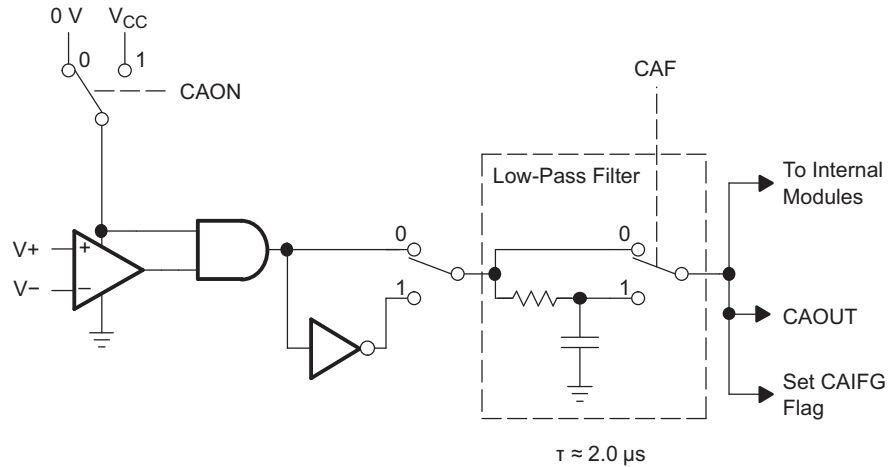
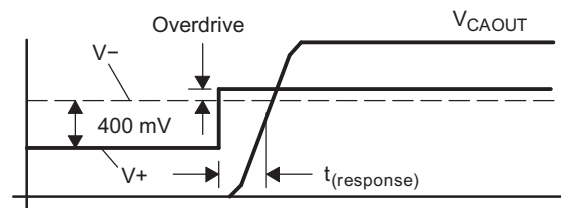

Figure 16. Comparator\_A+ Module Block Diagram
Figure 17. Overdrive Definition
| t (response) Response time (low-high and high-low)                    | T A = 25°C, Overdrive 10 mV,Without filter: CAF = 0 (3)(see <a href="#">Figure 16</a> and <a href="#">Figure 17</a> ) | 2.2 V           | 80   | 165  | 300                 | ns   |
|                                                                                  | T A = 25°C, Overdrive 10 mV,With filter: CAF = 1 (3)(see <a href="#">Figure 16</a> and <a href="#">Figure 17</a> )    | 2.2 V           | 1.4  | 1.9  | 2.8                 | μs   |